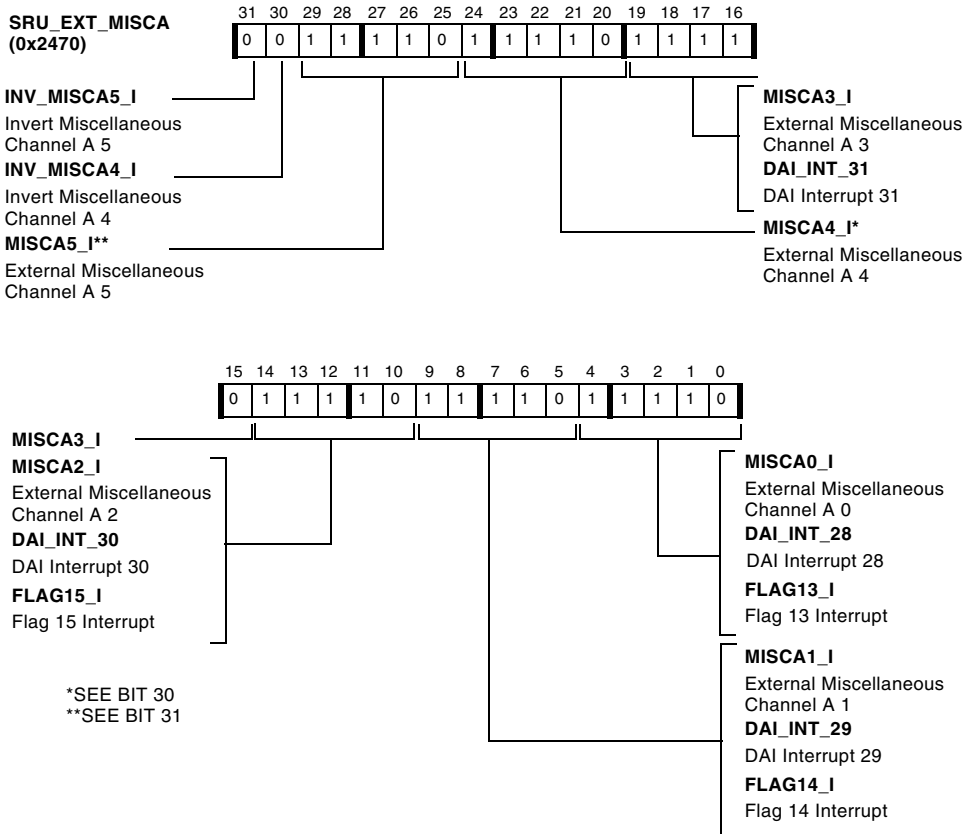

Figure A-50. SRU\_EXT\_MISCA Register
- SRU\_EXT\_MISCA, described in Figure A-50 on page A-133